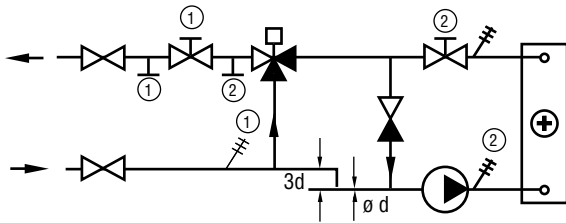
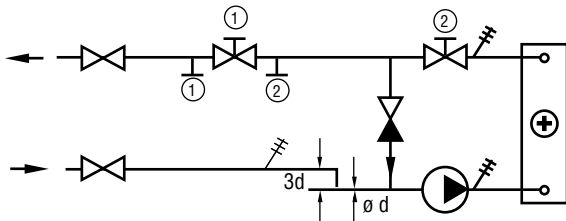

Fig. 7. Normal connection of the air heater.
Fig. 8. Connection of an air heater for lowest possible return water temperature.
The air heater should be connected as shown in Fig. 7. If the temperature of the return water is to be as low as possible, e.g. as in the case of the district heating plants, connections should be made as shown in Fig. 8.
The measuring points should be arranged as shown in Figs. 7 and 8 respectively. Throttling valves with built-in measuring nipples are available on the market. If throttling valve No. ① is of this type, measuring points ① and ② are not required. A suitable connection size for the measuring points is 6 mm (1/4" BSP).
NOTE! The non-return valve, when fitted as shown in Figs. 7 and 8 must permit flow downwards. Should this not be possible, the pipework package (shunting unit) should be arranged in Z form or some other suitable arrangement.
Connection according to Fig. 7 on page 3
Connection according to Fig. 8 on page 3